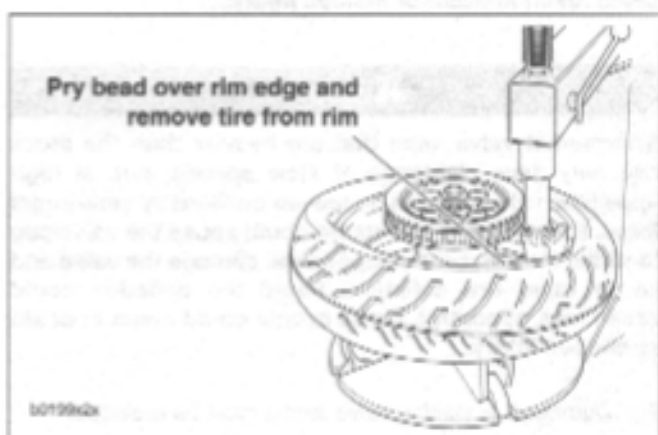

Figure 2-27. Starting Tire Off Rim
- See Figure 2-27. Push lower bead into rim well on one side and insert tire tool underneath bead from opposite side. Pry bead over rim edge. Remove tire from rim.